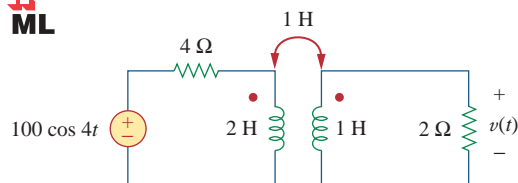

Figure 13.77
- 13.8** Find $v(t)$ for the circuit in Fig. 13.77.